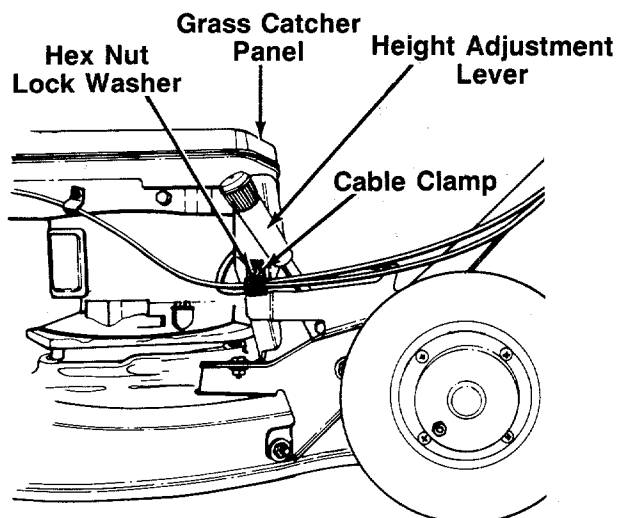

FIGURE 8.
2. Remove the top hex nut and lock washer on the side of the grass catcher panel. Attach the cable clamp as shown in figure 8. Secure with lock washer and hex nut.